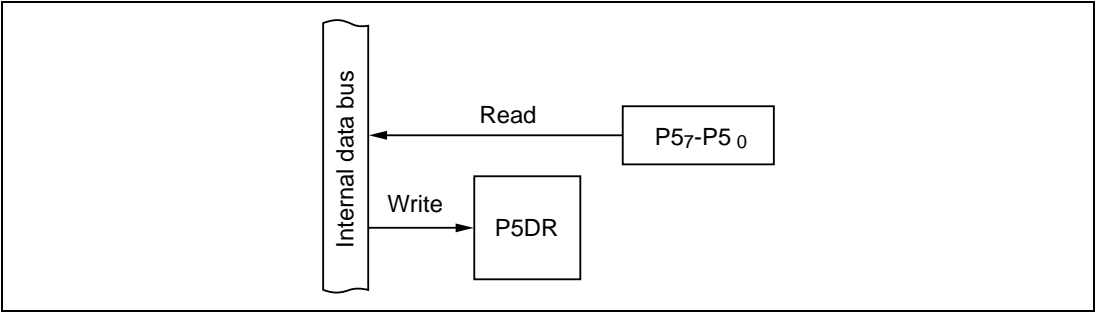

Figure 10-29 Input Port (Modes 1 to 7)
(1) Input Port (Modes 1 to 7): Figure 10-29 shows a block diagram illustrating the general-purpose input function. Table 10-21 indicates register read/write data. Values written in the port 5 data register (P5DR) have no effect on general-purpose input lines. When read, P5DR returns the value at the pin.